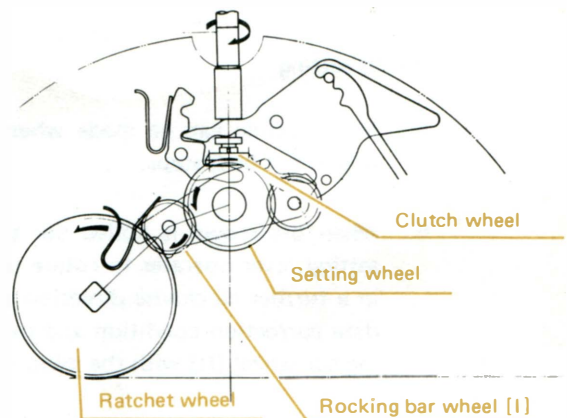

Fig. 7
- The power transmitting process is as follows (Fig. 7):
(2) Quick date setting